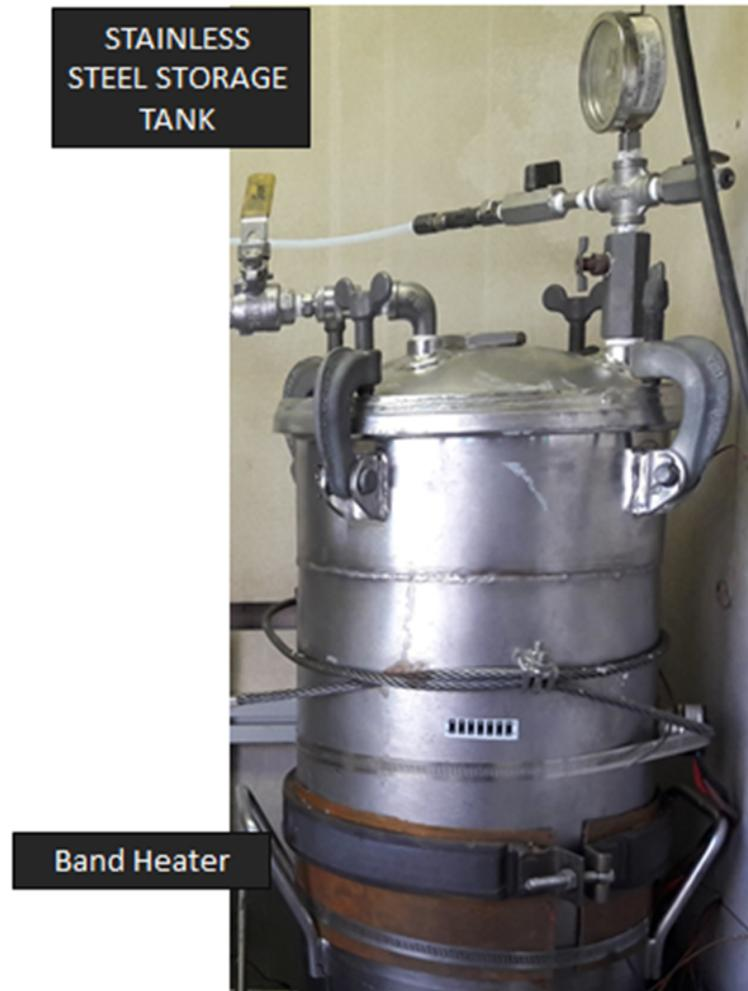

Figure 3: When not in use, gallium is stored in this stainless steel tank.
- A 20 liter Binks Stainless Steel storage tank. Stainless steel (SS 316L) was chosen since both copper and aluminum react with gallium. To open the tank, use the four clamps at the top of the tank. When not in use for experimentation, SPINlab's gallium supply should be stored in this tank. See Fig. 3.